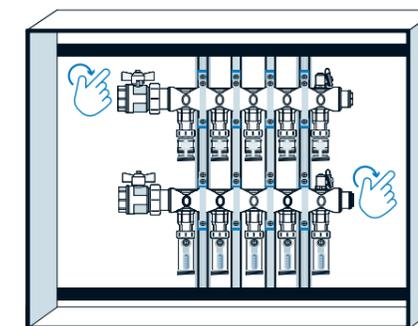

Figure 6: Ensure rail is behind top mounting bracket
4. Rotate the top of the manifold assembly vertical supports to the right or left so they slide behind the top rail lip (see **Figure 6**).